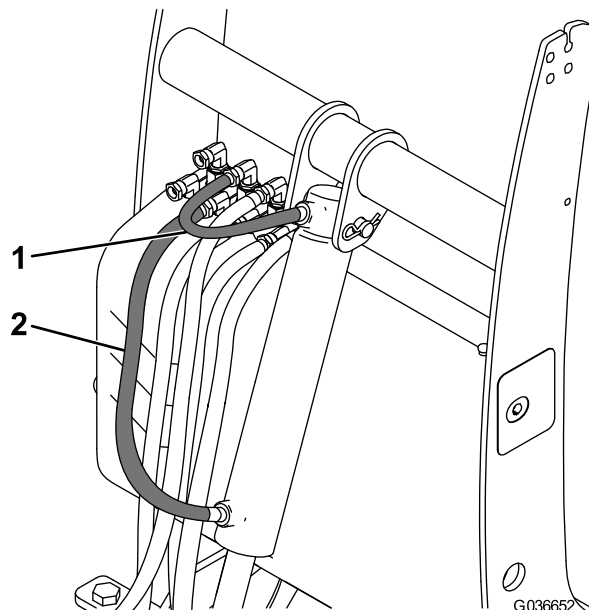

Figure 11
8. Install the 45 cm (18 inch) hose to the L port on the hydraulic shelf and the lower fitting on the lift cylinder (Figure 11). Turn the fitting until it is finger tight, then turn it another 1/4 to 1/2 turn.
10. Install the 39 cm (15-1/2 inch) hose to the Aux port on the hydraulic shelf (Figure 11). Turn the fitting until it is finger tight, then turn it another 1/4 to 1/2 turn.
- Using thread compound, connect the other end of the hose to the upper fitting on the lift cylinder (Figure 11), and turn the fitting until it is finger tight, then turn it another 1-1/2 to 3 turns.